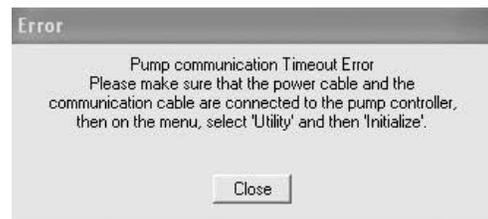

Figure 6: Initialization error message
2. If the error message in **Figure 6** appears, close the window, then check that all the connectors are completely plugged in and make sure all the dip switches on the controller are in the "up", or OFF position. Repeat Step 1.